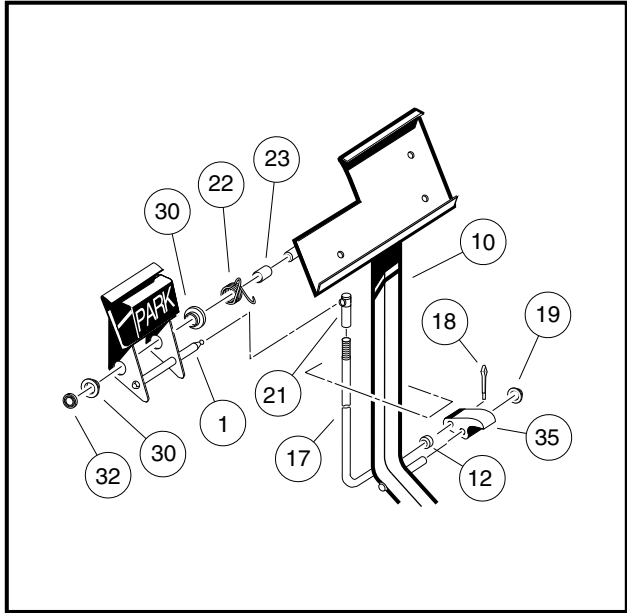
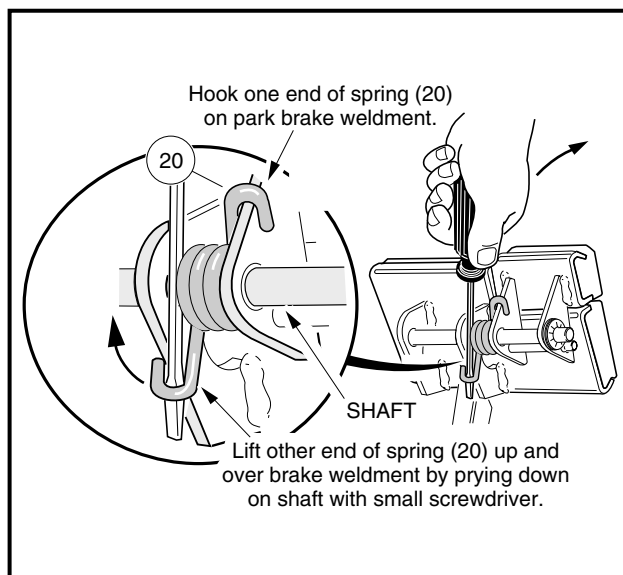

Figure 5-4 Park Brake Assembly
Figure 5-5 Torsion Spring Installation
NOTE: New push nuts (19) and (32) must be used when reassembling the park brake (**Figure 5-4, Page 5-6**).
- 3.2. To remove the park brake pedal (1), remove the push retainer nut (32), disconnect the torsion spring (22) (**Figure 5-4, Page 5-6**) and slide the pedal off of the shaft. **See preceding NOTE.**
1. From the bottom side of the floorboard, insert the park brake rod (17) through the brake pedal assembly opening as shown (**Figure 5-4, Page 5-6**). Then install the park brake pawl (35) onto the shaft on the brake pedal assembly (10) and also insert the park brake rod (17) into the park brake pawl.
2. Install the push nut (19) on to the park brake pawl shaft.
3. Install the spacer (23) and torsion spring (22) on the park brake pedal shaft on the brake pedal assembly.
4. Install the two bushings (30) in the park brake pedal and position the park brake pedal on the shaft on the brake pedal assembly weldment (10) (**Figure 5-4, Page 5-6**). Then attach the ends of the torsion spring to the park brake pedal and to the brake pedal weldment as shown (**Figure 5-5, Page 5-7**).
5. Install the push nut (32) on the park brake pedal shaft (**Figure 5-4, Page 5-6**).
6. Connect park brake rod (17) with ball joint (21) to the ball stud on the park brake pedal assembly (**Figure 5-4, Page 5-6**).